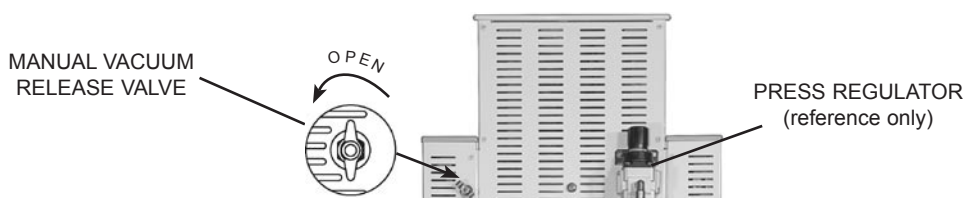

Figure 9. VIP Furnace Vacuum Release Valve
- a. Turn knob on the back of the VIP Furnace one-half turn in a counterclockwise direction to release vacuum. (Be sure to close this knob **TIGHTLY** after vacuum is released.) See Fig 9.